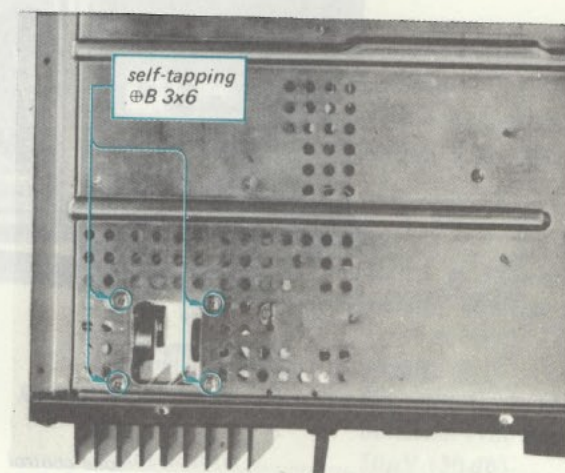

Fig. 2-18. Heat sink removal
2. Remove the four self-tapping screws ($\text{Ⓟ B 3} \times 8$) securing the heat sink to the chassis as shown in Fig. 2-18.